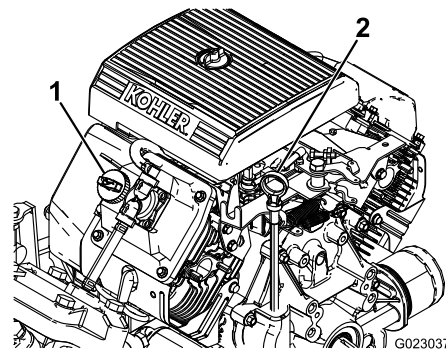

Figure 37
2. Remove the dipstick and wipe it with a clean rag (Figure 37). Insert the dipstick into the tube and make sure that it is seated fully. Remove the dipstick and check the oil level.
3. If the oil level is low, remove the filler cap from the valve cover (Figure 37) and pour oil into the opening until the oil level is up to the FULL mark on the dipstick. Add the oil slowly and check the level often during this process. Do not overfill.
8. Slowly pour approximately 80% of the specified amount of oil into the oil filler tube (Figure 37).